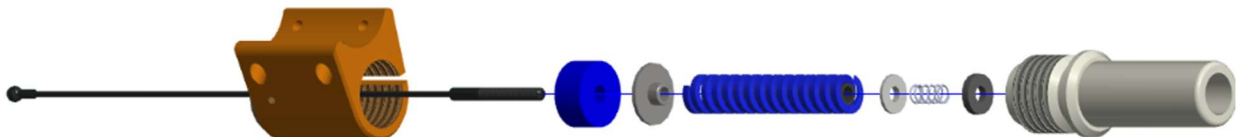

Figure 10-18. Unscrew the Upper Achilles Spring Housing (474-5525) from the Lower Achilles Spring Housing (474-5504)
- 10.2.14 Unscrew the Upper Achilles Spring Housing (474-5525) from the Lower Achilles Spring Housing (474-5504) (Figure 10-18).